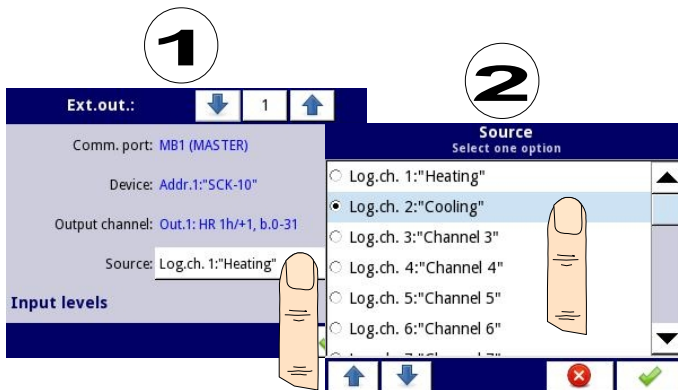

Fig. 7.79. Sample selection of **Source** for External output
- **Source** - after pressing the button next to **Source** label a list appears of Logical channels where the selected Logical channel will be data source for External output (see Fig. 7.79),